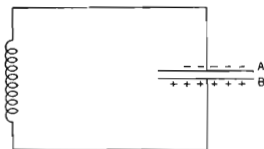

Fig. 51. Tuning circuit, showing charged capacitor.
54. What determines the natural frequency or rate of oscillation in the tuning circuit? Now connect your capacitor to the coil. This is the tuning circuit. Let us study the diagram of this circuit in Figure 51. Assume that a negative charge has been placed upon plate A of the capacitor and a positive charge upon plate B. Now the capacitor starts to discharge through the